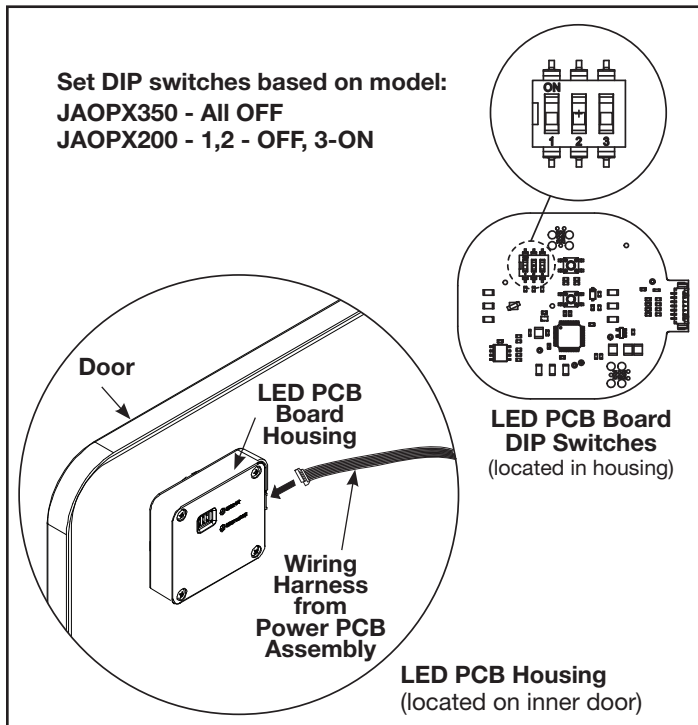

Figure 19. LED PCB Assembly On Door
6. Disconnect the LED PCB connector from the wire harness connector (on the door). See Figure 19.
7. Using a Phillip-head screwdriver, remove the four (4) screws and back cover over the LED PCB on the door. See Figure 19.
10. Secure the new LED PCB into the LED display and reinsert the connector to the wire harness. Replace the back cover onto the LED PCB using the four (4) screws previously removed.
11. Set the LED PCB board assembly DIP switches based on the model as shown. See Figure 19: